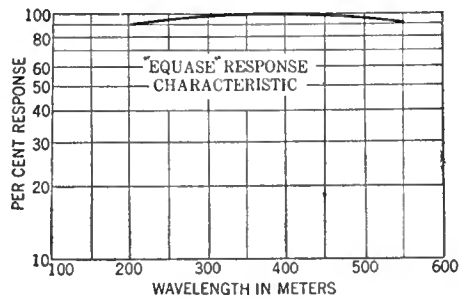

Fig. 5
4. Although the amplification increases rapidly as the wavelength increases, the response of the receiver as a whole is practically uniform over the whole band. The amplification characteristic in this case was purposely designed to increase with wavelength, since, on the longer wavelengths, the efficiency of capacitively tuned selecting circuits falls off and the ability of the antenna to absorb energy also diminishes. The response curve of the complete receiver is shown in Fig. 5.